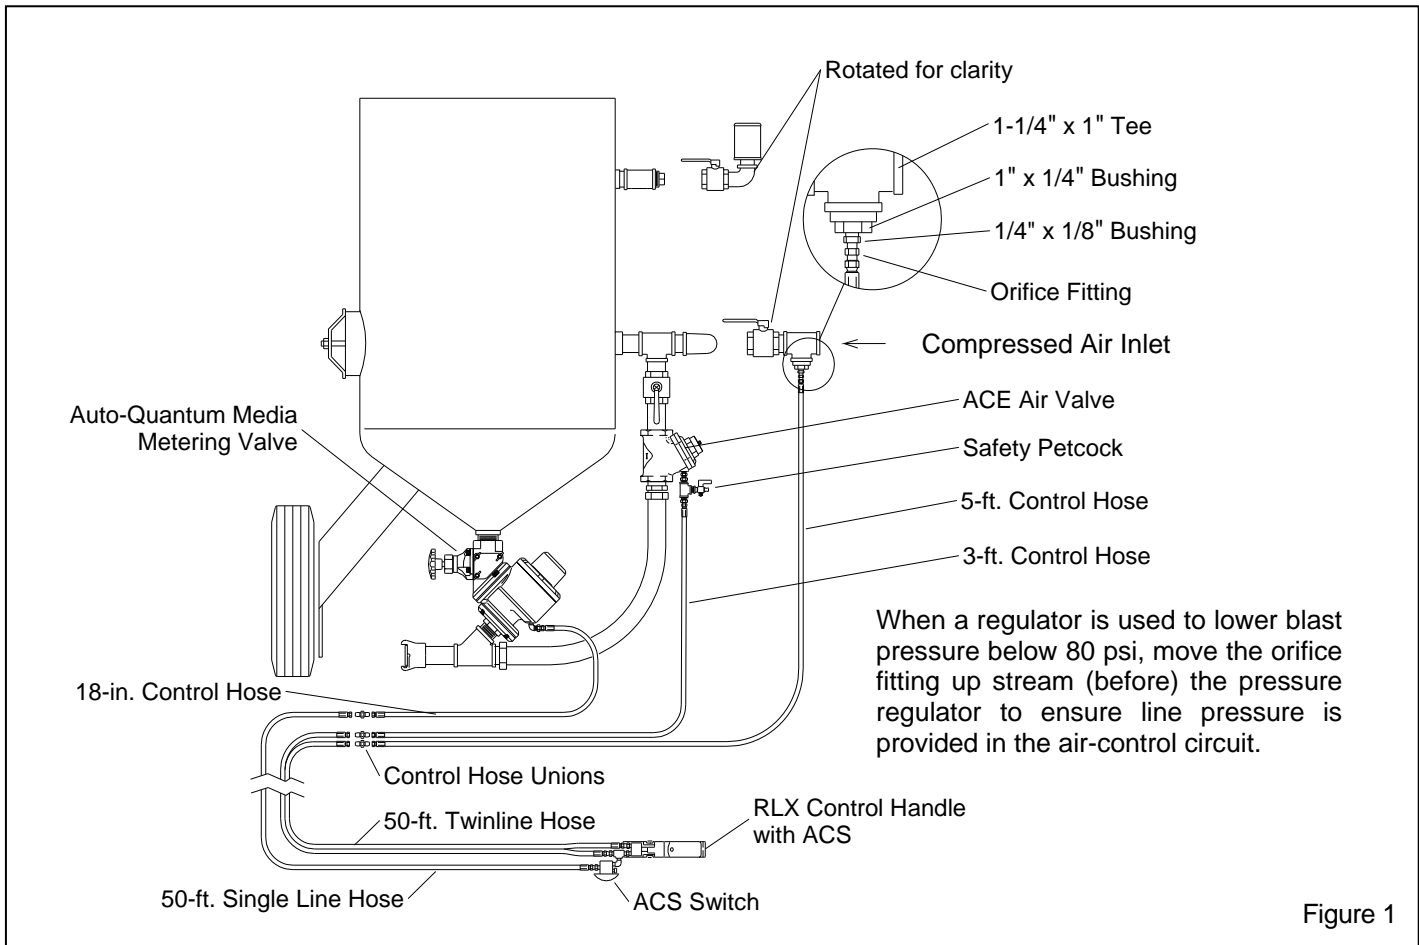

Figure 1
1.3.1 The components of the Quantum remote control system are shown in Figure 1. They include the Quantum pneumatically-operated abrasive metering valve, ACE air valve, RLX Control Handle with abrasive cut-off (ACS) air switch assembly, 50-foot twinline control hose, 50-foot single-line control hose, 18-inch hose, 3-foot and 5-foot control hose, and all necessary fittings.
1.4.3 Quantum remote controls operate on the "return air" principle (refer to Figure 1). When the machine is manually pressurized, control air travels from the orifice, down the outbound twinline and escapes through an opening located under the control handle lever. As long as air escapes through the opening, the
2.2.9 Connect a manually operated ball valve (inlet valve) and a second tee (Tee No. 2) to the blast machine as shown. NOTE: The second tee and all fittings necessary to complete the assembly shown in the detail circle in Figure 1 are included with the remote system.
2.2.10 Refer to the detail circle in Figure 1, and install the bushings and 1/16" orifice fitting.
2.2.11 Assemble a manual outlet valve assembly, and install it as shown. NOTE: Clemco supplies an exhaust muffler with all blast machines 1.5 cubic feet and larger. The muffler reduces exhaust noise and directs the exhaust downward, which prevents abrasive from exhausting into the air. When the blast machine is depressurized, the muffler body will pop up and diffuse the escaping air and abrasive. When the machine is fully depressurized, the muffler body will drop, permitting trapped abrasive to empty. For the muffler to work properly, it must be installed with the body facing up, as shown in Figures 1 and 3.
Refer to Figure 1.
The fittings used in the tee assembly shown in Figure 1 must have a 1/16" orifice in the end that threads into the bushing. Never use fittings that do not have the 1/16" restricting orifice. Any other fitting will cause accidental actuation of the blast machine which can result in property damage, injury, or death.